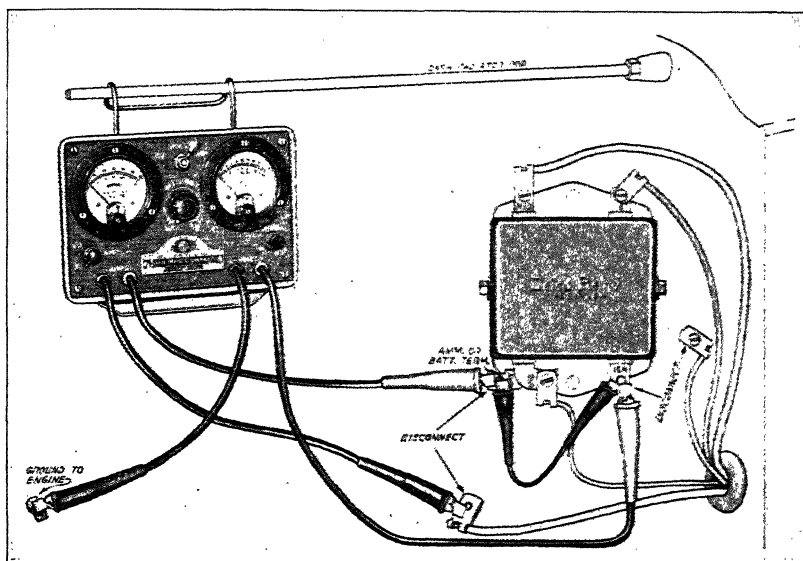

Fig. 15. Adjusting the Voltage Regulator
*Checking and Adjusting the Voltage Regulator with a Volt-Ampere Tester J-795.* Connect the volt-ampere tester as shown in Fig. 15. Be sure to disconnect the lead from the ignition (Ign.) terminal of the regulator and, using the jumper lead, connect the ignition (Ign.) terminal to the Battery (Batt.) or ammeter (Amm.) terminal.
minal of the regulator, and the negative voltmeter lead to a good ground, preferably the vacuumatic spark control tube at the distributor. Connect the ammeter as in Fig. 15. Loosen the voltage regulator cover, but do not remove it. Set the engine for maximum generator output (30 to 35 miles per hour). Adjust the resistance in the volt-ampere tester until the charging rate is from 8 to 10 amperes. (In some cases when the battery is fully charged, it may be necessary to turn on the lights to raise the generator output to this figure.)